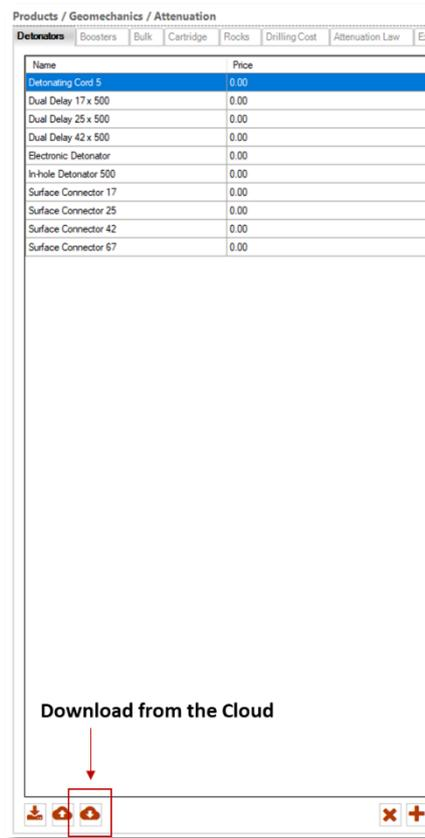

Figure 27 - "Download from Cloud" button.
- Click on **"Download from the Cloud"** (Figure 27).